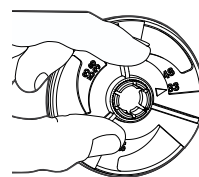

Figure 10
- 3 Remove the stator assembly and adjust by turning the black stator plate until the arrow aligns with the nozzle in use (Figure 10).